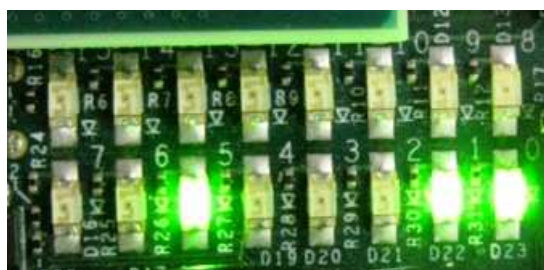
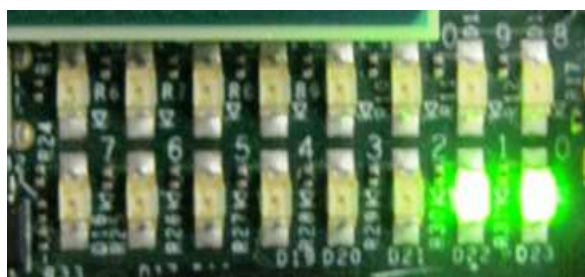

Figure 6 Normal operation LED Status for SATA-III speed
Figure 7 Normal operation LED Status for SATA-II speed
- Check LED status on Stratix IV GX board now and LED0-1 should be turn-on and LED5 should be on for SATA-III and off for SATA-II, as shown in Figure 6 and Figure 7.